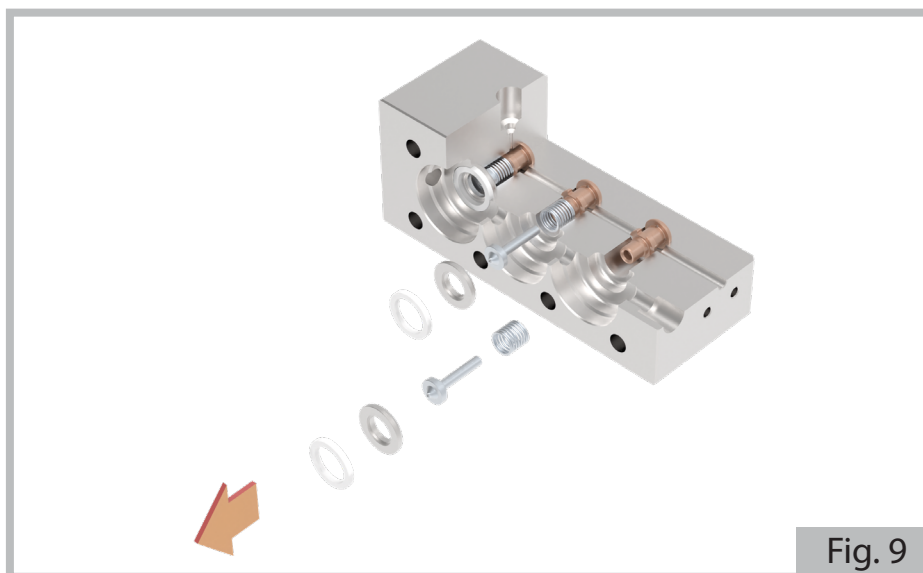

Fig. 9
- d) Remove the delivery valves, using an extractor or an M8 screw, being careful not to damage them. (Fig. 9 and 10).
To refit the parts, perform the operations described in the REMOVING THE HYDRAULIC PART paragraph but in the reverse order, as per the sequences shown in Fig. 9 and 10.